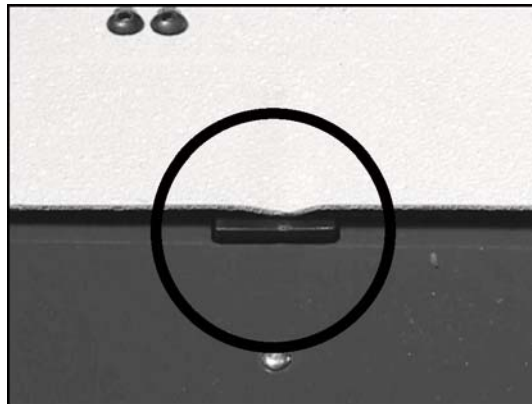

FIGURE 3-7: BRIDGEPLATE ADJUSTED CORRECTLY
- c. Slowly turn DEPLOY CUTOFF ADJUSTMENT SCREW **clockwise** until the bridgeplate moves onto the load sensor, as shown in **Figure 3-7**.
- h. Cycle platform to DEPLOY then UP to floor level. Observe the position of the bridgeplate to the load sensor and make any necessary adjustments. The bridgeplate should sit on the load sensor, as shown in **Figure 3-7**.